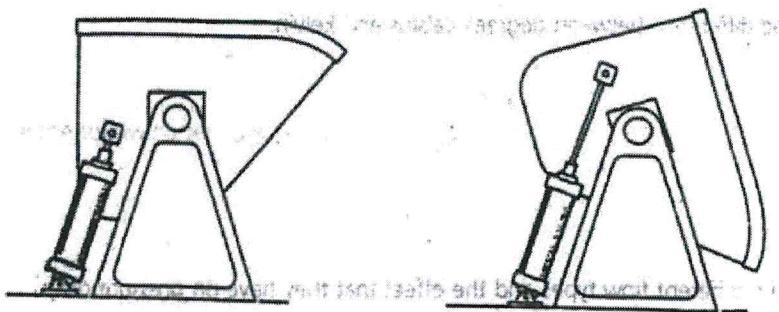

Figure Q2(a)/ Rajah S2(a)
- a) Figure Q2(a) shows the dump hopper filled with bulk loose material. When an operator presses push button PB1, the dump hopper is tilted and bulk loose material is emptied out. By pressing another push button PB2, the dump hopper is returned to its initial position. Construct a pneumatic system using a double acting cylinder and 5/2-way directional control valve double piloted air to control the hopper.